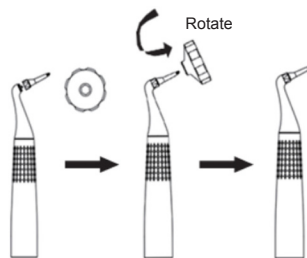

Fig. 6 Nozzle locking
2.3.5.2 Install the nozzle before use, take out the nozzle assemble the nozzle to the end of the subgingival handpiece. Rotate the nozzle nut to the head handpiece first, and then lock the nozzle with a wrench, as shown in Fig. 6.